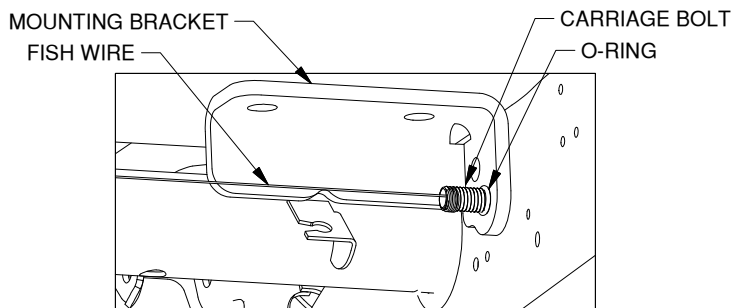

Figure B3: Looking at mounting bracket installation.
4. **Pull fish wire through frame.** With the fish wire through the locking strap, push the locking strap completely into the frame. Next, pull the carriage bolt into the frame. Continue pulling on the fish wire until the threaded portion of the bolt is sticking out of the frame. Turn carriage bolt until square shoulder engages square hole of strap. Thread the mounting bracket and an O-ring over the fish wire and onto the bolt. Push the O-ring tight against the bracket, see Figure B3. This will prevent the bolt from accidentally falling back into the frame. The O-ring will stay on the bolt after the washer and nut are installed and tightened.